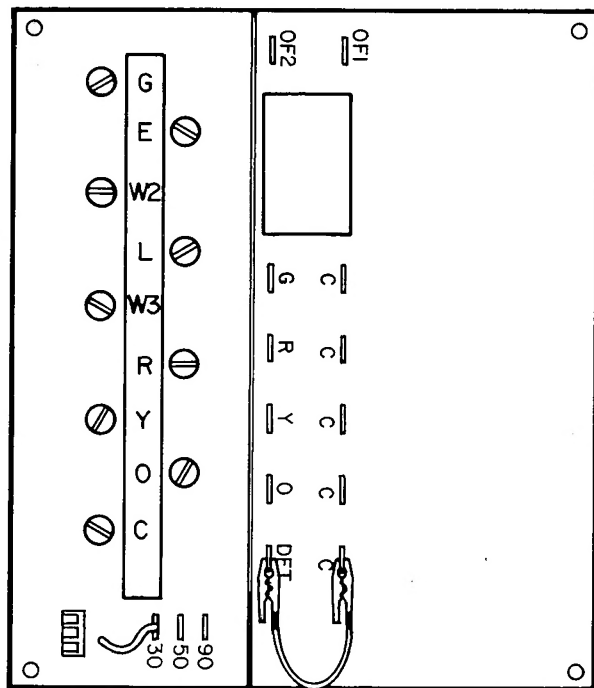

Fig. 9 — Jumper DFT and C Terminals
4. Jumper between DFT and C terminals on control board as shown in Fig. 9.